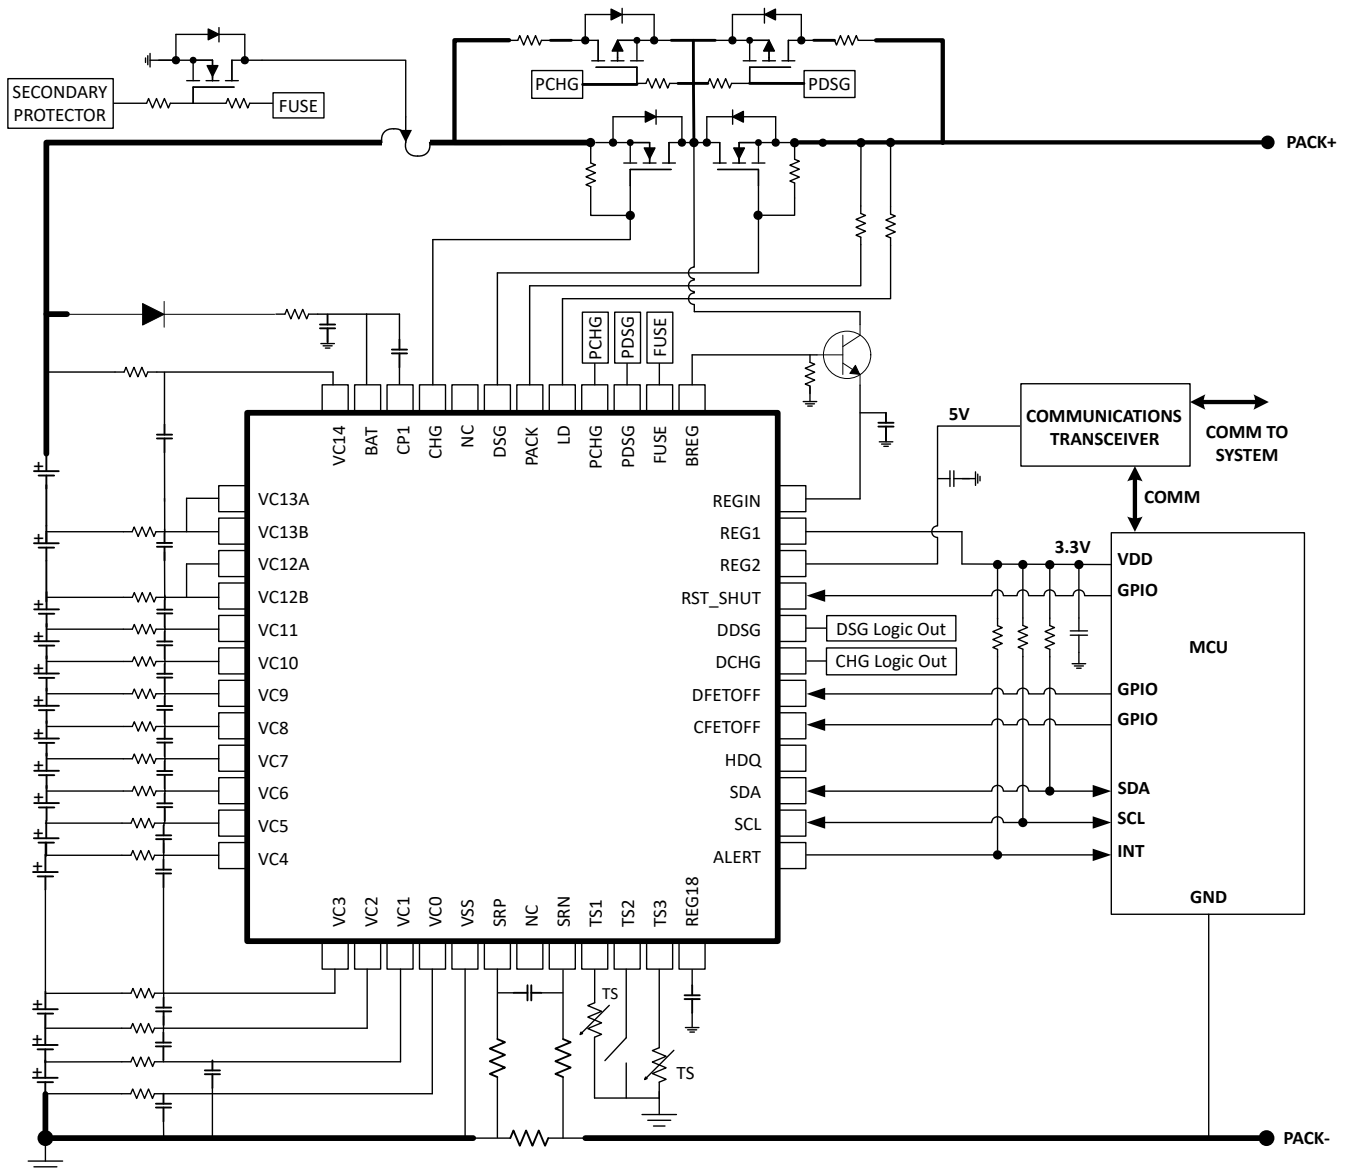
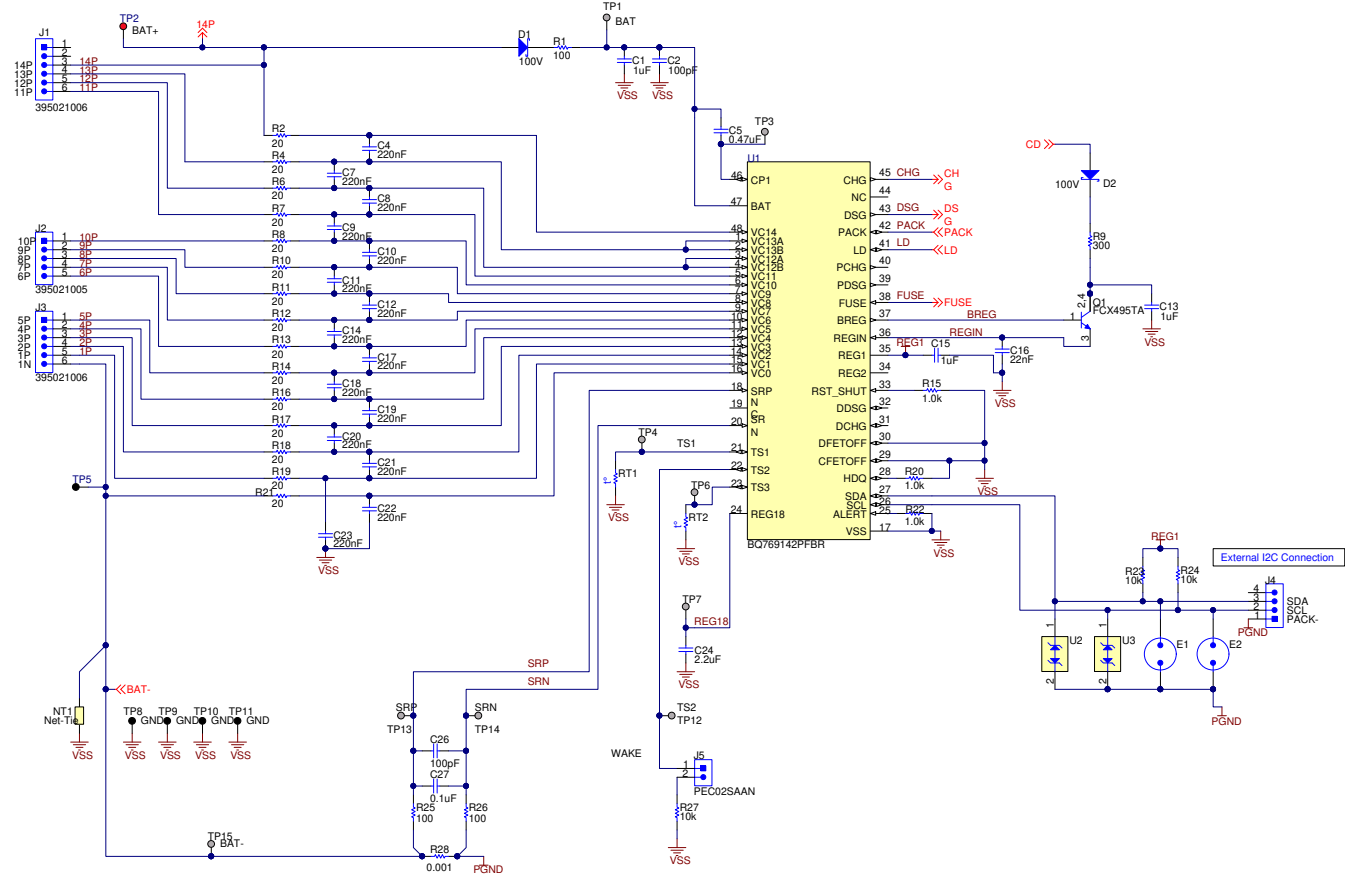
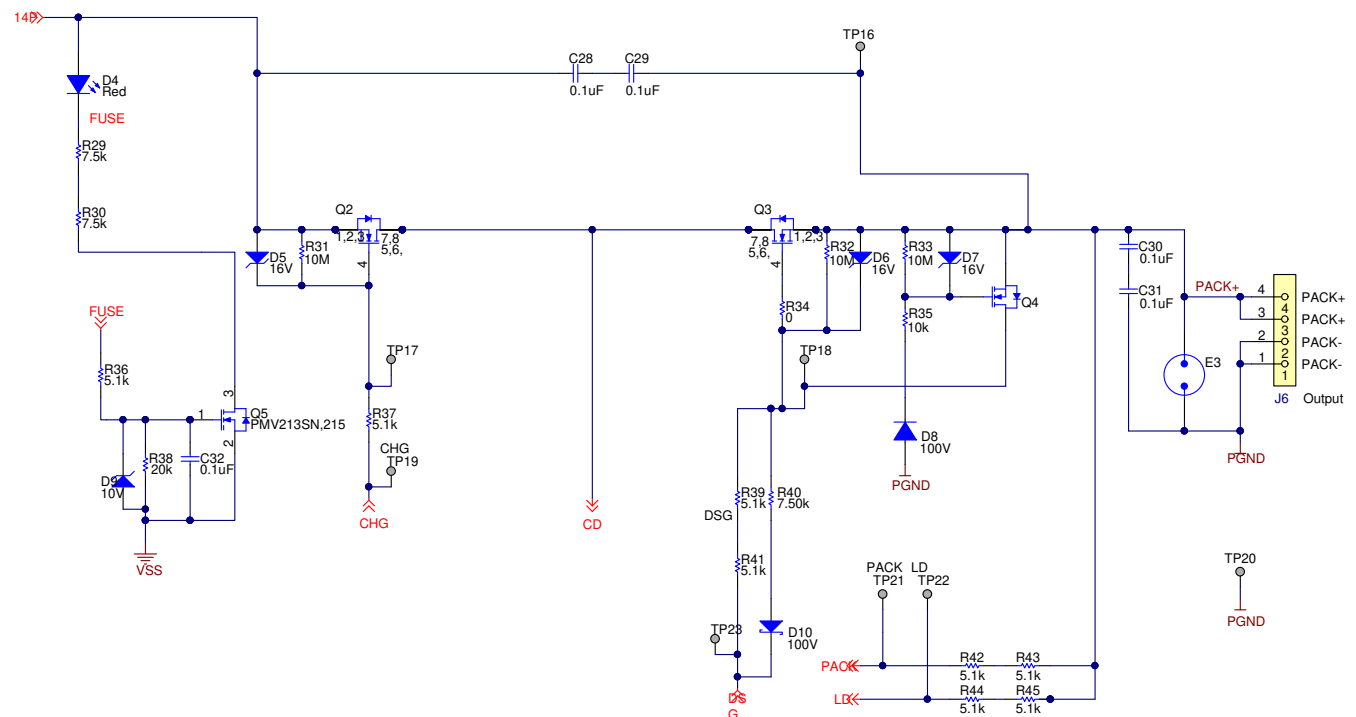

Figure 16-1. BQ769142 14-Series Cell Typical Implementation (Simplified Schematic)
Figure 16-2. BQ769142 14-Series Cell Schematic Diagram—Monitor
Figure 16-3. BQ769142 14-Series Cell Schematic Diagram—Additional Circuitry
Figure 16-1 shows a simplified application schematic for a 14-series battery pack, using the BQ769142 together with an external secondary protector, a host microcontroller, and a communications transceiver. This configuration uses CHG and DSG FETs in series, together with high-side PFET devices used to implement precharge and pre-discharge functionality. See the following implementation considerations:
Figure 16-2 and Figure 16-3 show a full schematic of a basic monitor circuit based on the BQ769142 for a 14-series battery pack. The BQ76952 EVM also provides a good reference design for BQ769142, noting that the VC12 - VC16 connections in the BQ76952 EVM need to be modified as shown in Figure 16-1.
- Power Dissipation, which can be a factor of the RDS(ON) rating of the FET, the FET package, and the PCB design
- The overdrive level of the BQ769142 device charge pump should be selected based on RDS(ON) requirements for the protection FETs and their voltage handling requirements. If the FETs are selected with a maximum gate-to-source voltage of 15 V, then the 11-V overdrive mode within the BQ769142 device can be used. If the FETs are not specified to withstand this level or there is a concern over gate leakage current on the FETs, the lower overdrive level of 5.5 V can be selected.
- A diode can be optionally included in the collector circuit of the BJT to avoid reverse current flow from BREG through the base-collector junction of the BJT to PACK+ during a pack short circuit event. This diode can be seen in Figure 16-2 at D2.